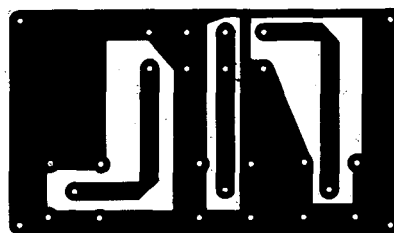

fig. 2. Full-size printed-circuit board for dual-inline packaged double-balanced mixer modules.
**Fig. 2** is a full-sized layout of a circuit board which will accommodate any of the mixers listed in **table 1**. As with all microstripline circuits, it is etched on one side of double-sided printed circuit material. The other side remains unetched and serves as a ground-plane. The dimensions of the circuit were chosen to provide a good impedance match to 50 ohms at all
Most of the manufacturers listed in **table 1** will sell their mixers directly to the individual experimenter in small quantities; a few may require that orders be placed through a regional representative. Circuit boards can be etched from the artwork in **fig. 2**.\*